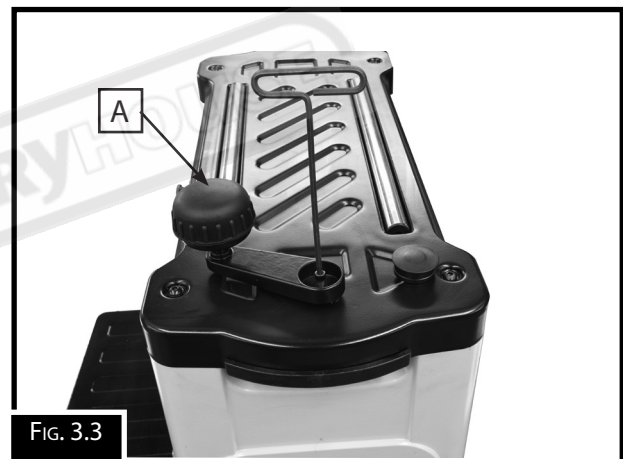

FIG. 3.3
Attach the depth adjustment handle (A) to the shaft and fasten in place with a Hex Socket Head screw. Tighten screw using supplied hex wrench. (Fig. 3.3)